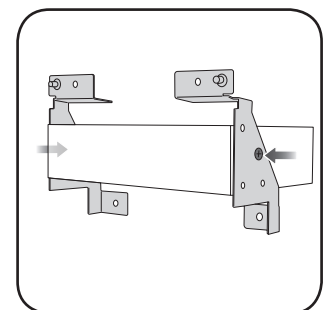

Fig. 3.10
11. Mount the factory brackets to the aftermarket radio chassis. Align the center hole of the brackets with the mounting locations on the radio chassis and secure using the screws provided with the aftermarket radio. (Fig. 3.10)